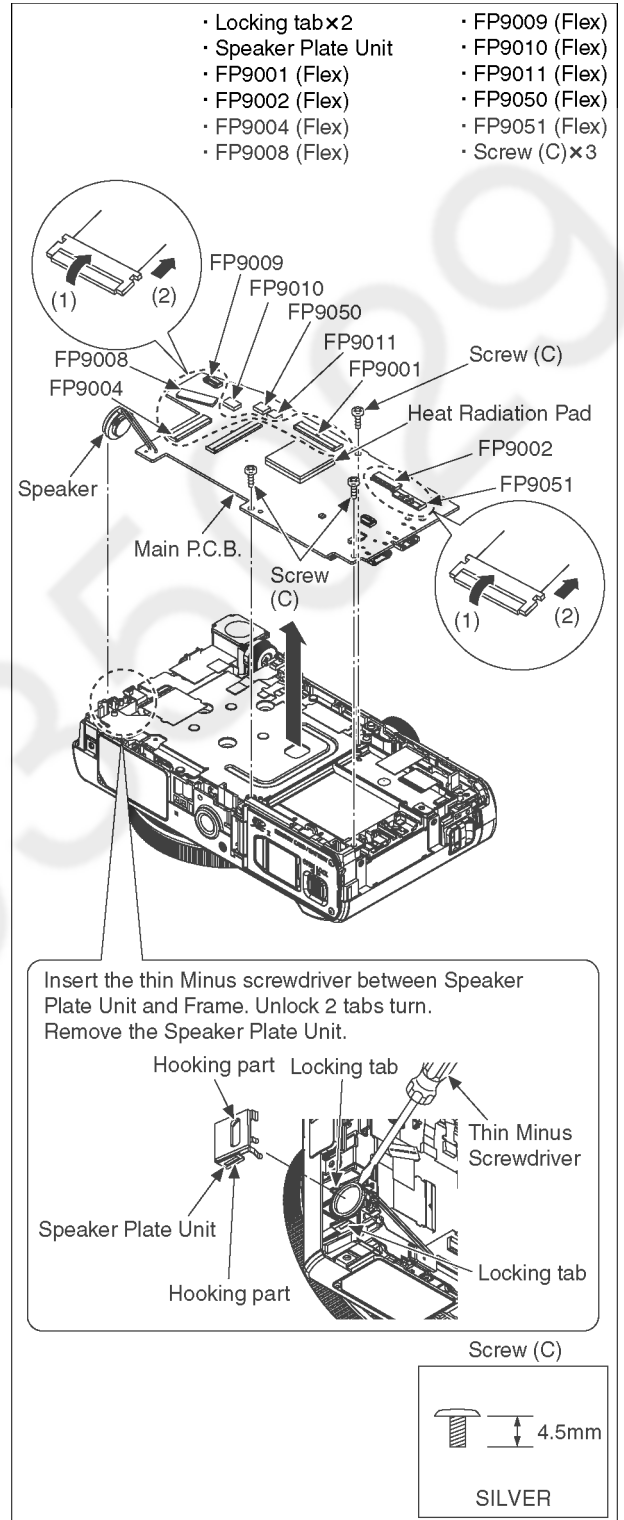

Fig. D5
(Fig. D5)	Locking tab × 2 Speaker Plate Unit FP9001 (Flex) FP9002 (Flex) FP9004 (Flex) FP9008 (Flex) FP9009 (Flex) FP9010 (Flex) FP9011 (Flex) FP9050 (Flex) FP9051 (Flex) Screw (C) × 3 Heat Radiation Pad Main P.C.B.